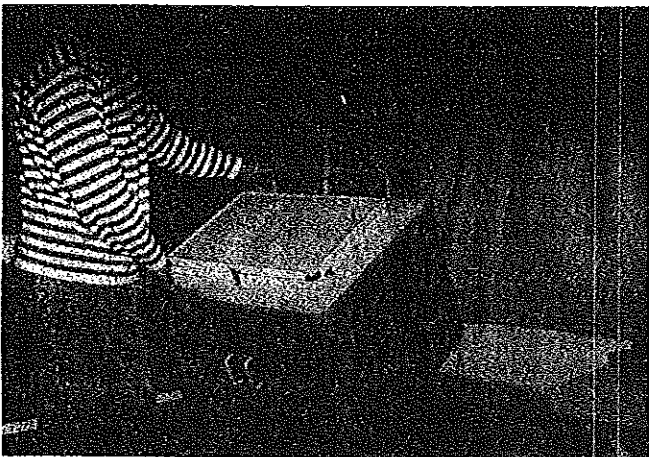

FIGURE 29
29. Grasp the towel rack of the upper galley assembly. Lift up and rotate 180 degrees toward the outside of the trailer. See Figure 29.